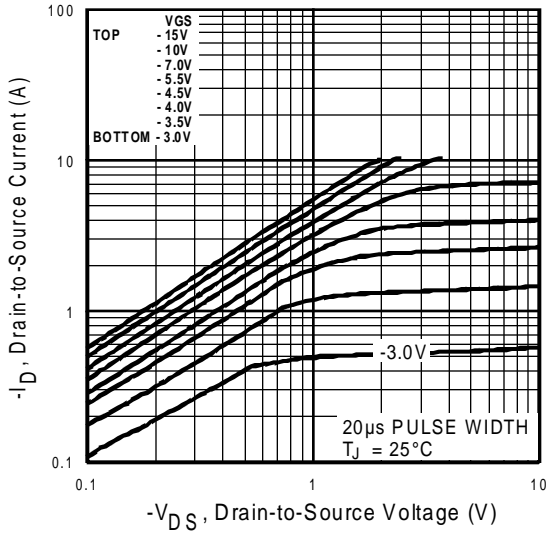

Fig 12. Typical Output Characteristics
- ③ N-Channel Starting T_J = 25°C, L = 22mH R_G = 25Ω, I_{AS} = 2.0A. (See Figure 12)